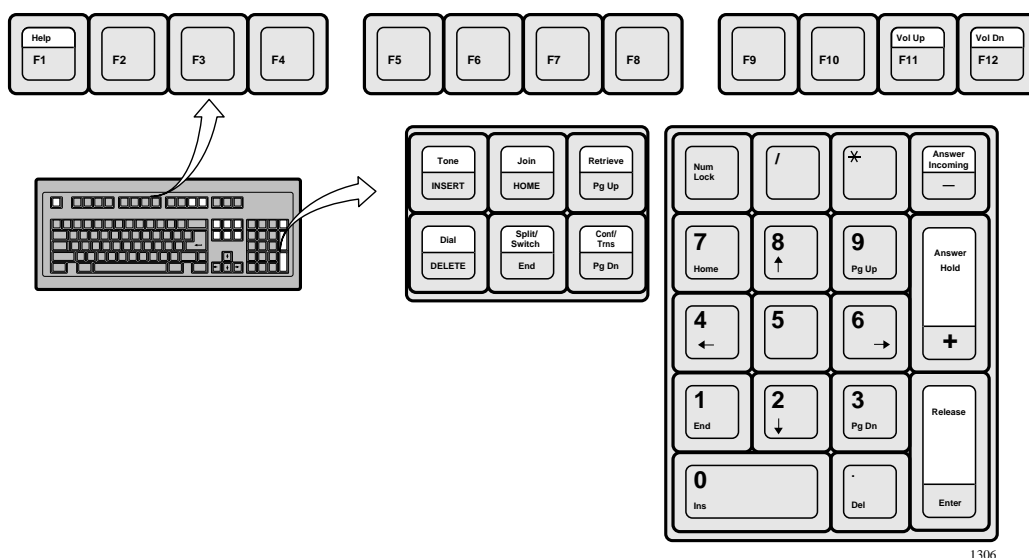

Figure 17 Custom Keyboard Layout
- ✦ Custom keyboard (see Figure 17)